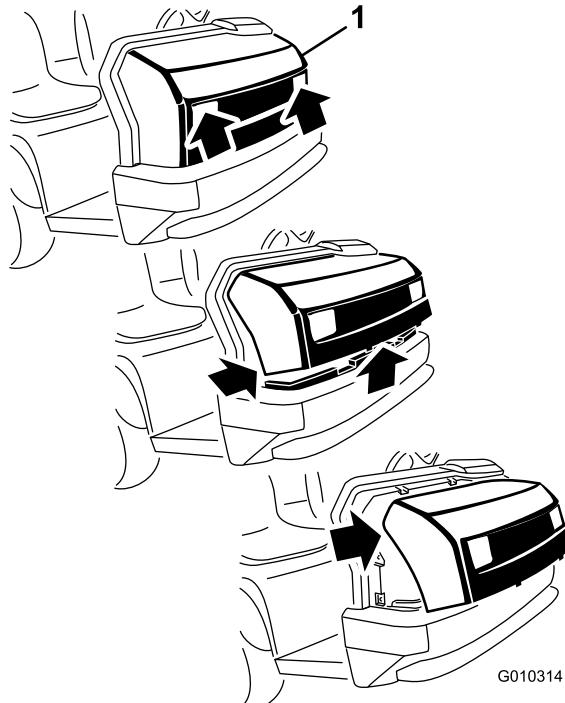

Figure 35
2. Pivot the bottom of the hood upward until the top mounting tabs can be pulled from the frame slots (Figure 35).
3. Pivot the top of hood forward and unplug the wire connectors from the head lights (Figure 35).
1. While grasping the hood in the headlight openings, lift up on the hood to release the lower mounting tabs from the frame slots (Figure 35).